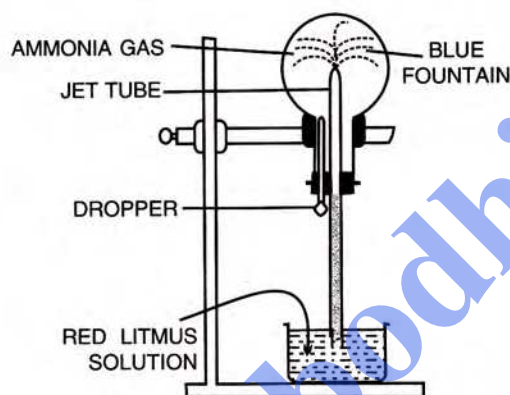

Fig. 9.5. Fountain experiment
4. A retort stand is used to fix the round bottomed flask in inverted position as shown in Fig. 9.5.